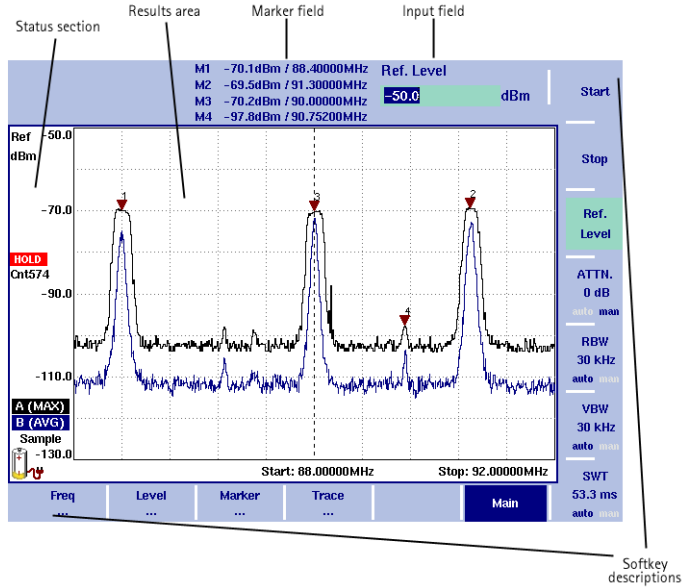

Figure 3 Display sections
**Display** The 6.5 inch display is divided into the following sections (see Figure 3):